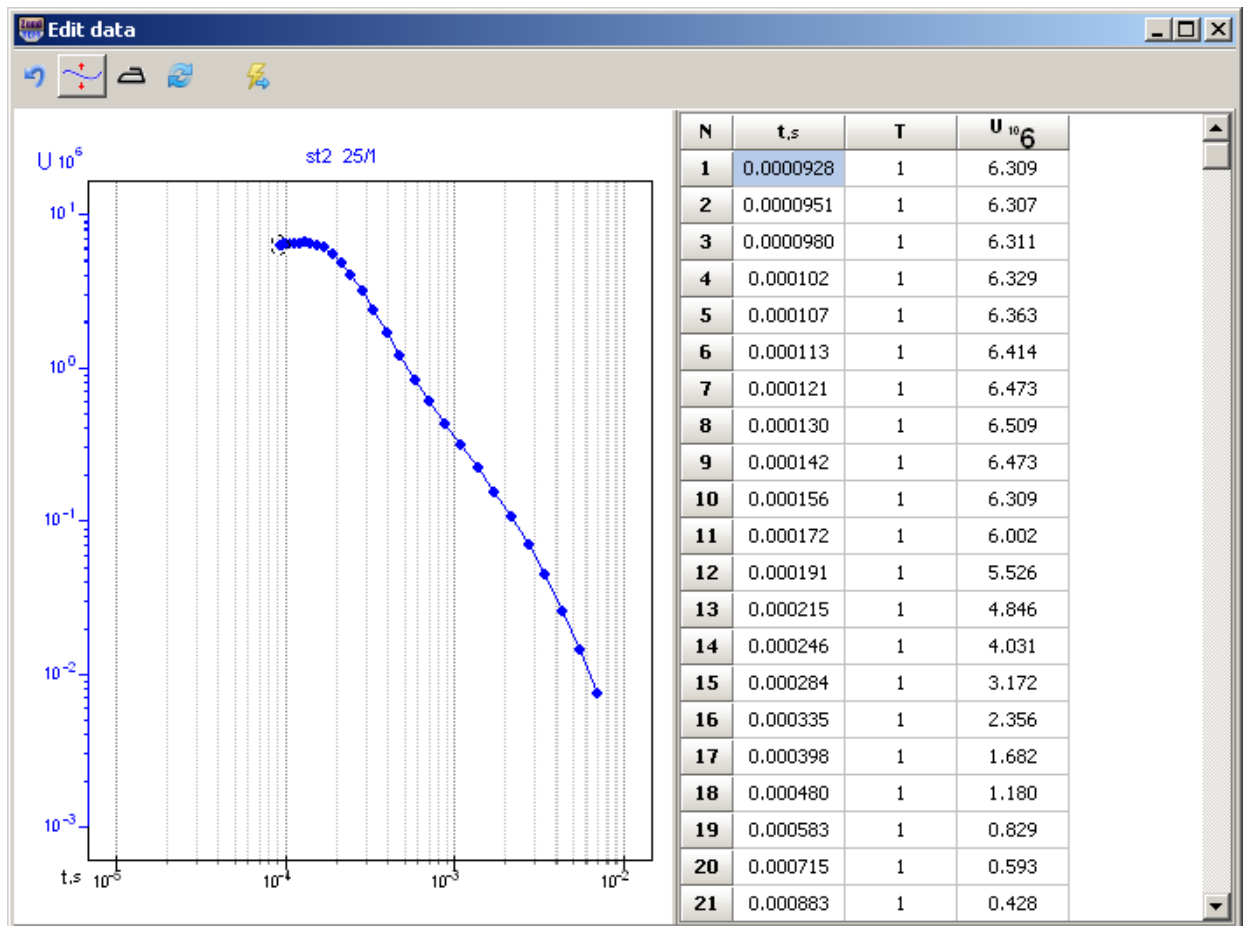

Fig. 34 Sounding curves setup window **Edit data**
**Edit data** option is used to edit sounding curves manually. When this option is selected dialog window **Edit data** appears (fig. 34).